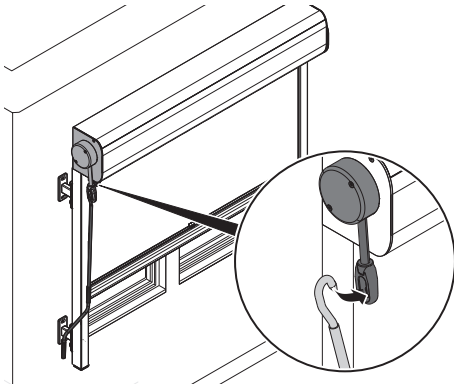

Fig. 13: Insert the manual crank
As an alternative to the electric motor, the fabric panel of the vertical awning (except type VM720/3) can be steplessly operated manually via the gear with the manual crank (fig. 13).
1. Insert the manual crank in the crank slot (fig. 13).